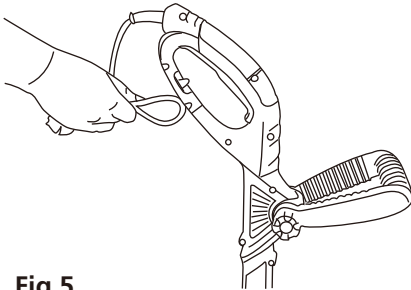

Fig 5
2. Double the extension cord, about 3cm from the end. Lead the loop through the hole on the rear safe guard and hook the loop over the cord strain relief. Gently pull on the cord to ensure that it is firmly attached (Fig 5, 6).